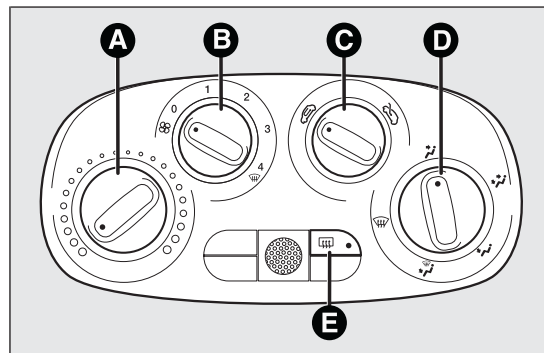

fig. 28
- A Air temperature knob (red = hot/blue = cold) fig. 28
- B Fan speed knob and climate control system activation/deactivation fig. 28. Press the knob to activate the climate control system; the LED on the knob switches on. This enables rapid cooling of the passenger compartment.
**C Air recirculation knob fig. 28**
**D Air distribution knob fig. 28**
**E Heated rear window activation/deactivation button fig. 28.**